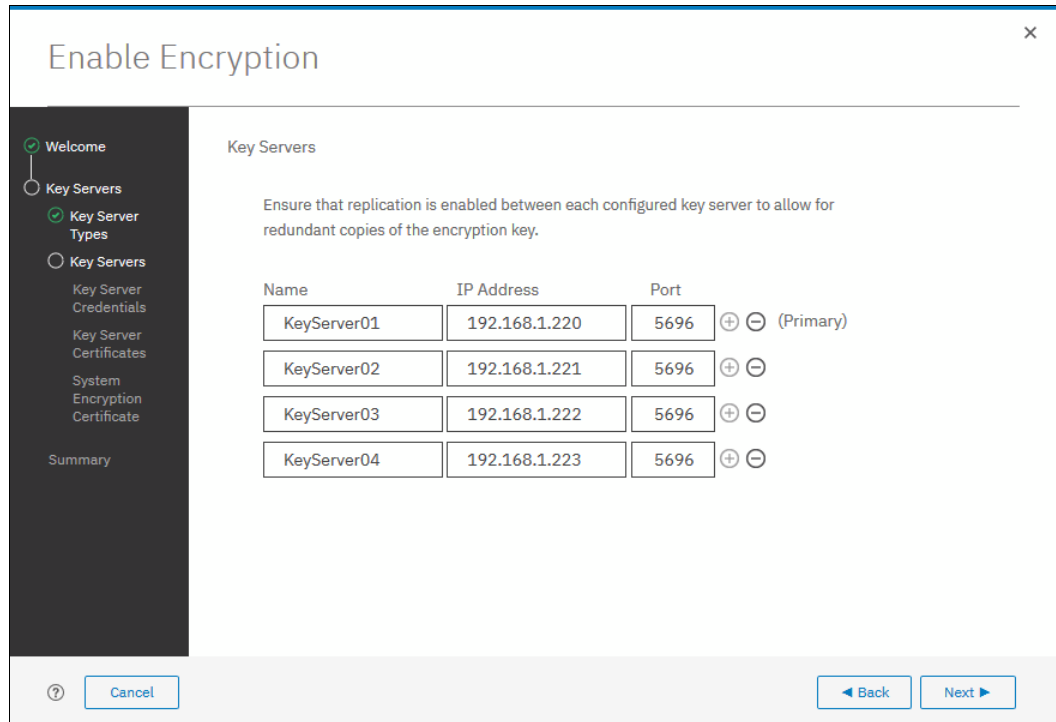

Figure 13-43 Configuring multiple SafeNet KeySecure servers
4. Add up to four SafeNet KeySecure servers in the next wizard window, as shown in Figure 13-43 on page 761. For each key server, enter the name, IP address, and TCP port for KMIP protocol (default value is 5696). Because the server name is only a label, it does not need to be the real host name of the server.